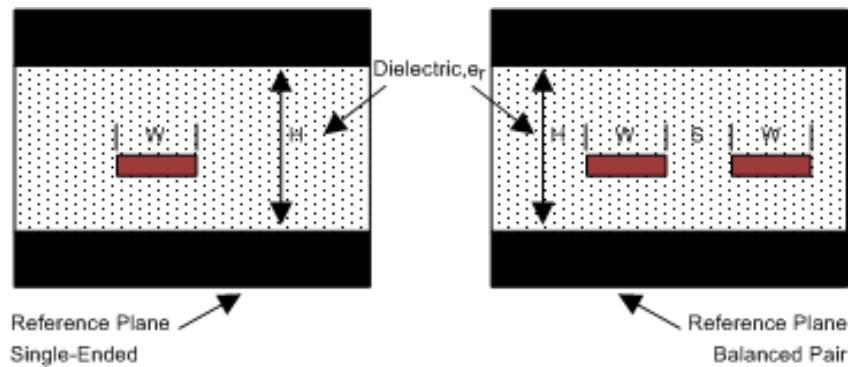

Figure 33. Stripline Topology
Striplines are traces between two ground planes (see Figure 33). Striplines are less prone to emissions and susceptibility problems because the reference planes effectively shield the embedded traces. However, from the standpoint of high-speed transmission, juxtaposing two planes creates additional capacitance. TI recommends routing M-LVDS signals on microstrip transmission lines if possible. The PCB traces allow designers to specify the necessary tolerances for  $Z_0$  based on the overall noise budget and reflection allowances. Footnotes 1(1), 2(2), and 3(3) provide the documentation for formulas for  $Z_0$  and  $t_{PD}$  for differential and single-ended traces. (1) (2) (3)